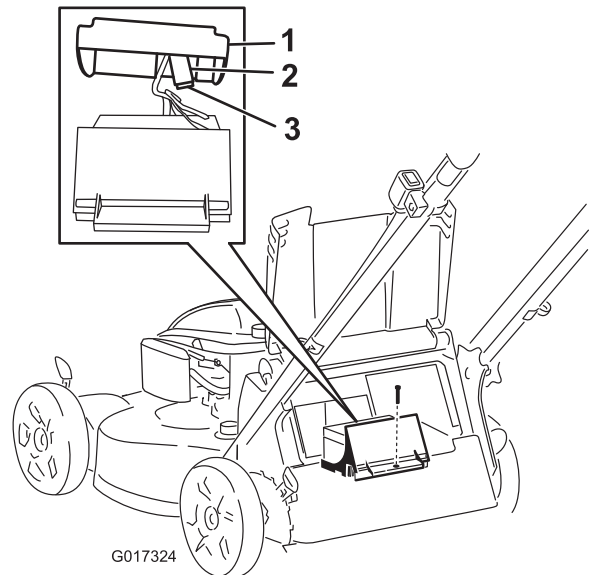

Figure 25
3. Remove the screw that secures the battery compartment, pull out the battery, and locate the fuse (Figure 25).
4. Replace the fuse in the fuse holder (Figure 25).